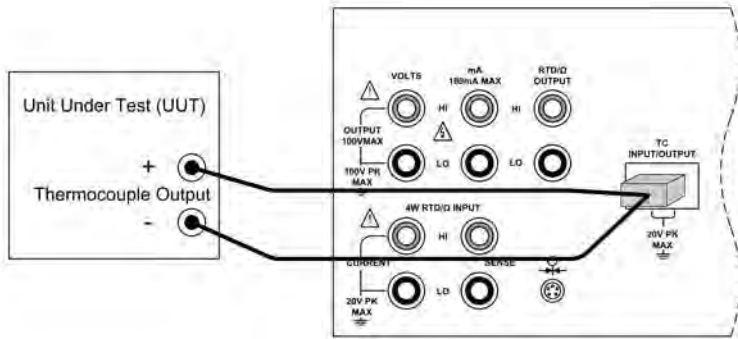

Figure 14 - Thermocouple Input Connection
- e) Connect the unit under test to the thermocouple terminals of the CL3001 using a standard T/C miniplug as shown in figure 14. One pin is wider than the other; do not attempt to force the plug in the wrong polarization. The T/C wire used for the connection must match the thermocouple type selected for proper cold junction compensation. If the CL3001 and the T/C miniplug are